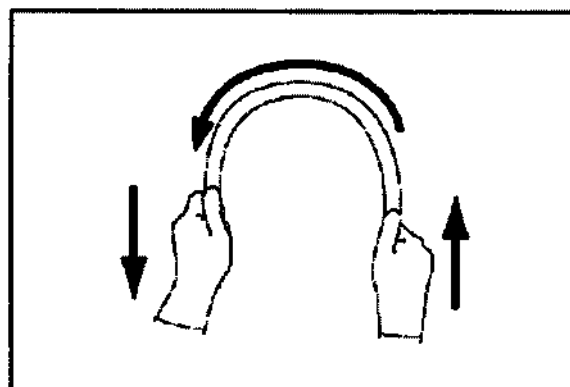

Fig 3.5
6. Using both hands, bend the insertion tube of the endoscope into a semicircle. Then, moving your hands as shown by the arrows, confirm that the entire insertion tube can be smoothly bent to a semicircle. (Fig 3.5)